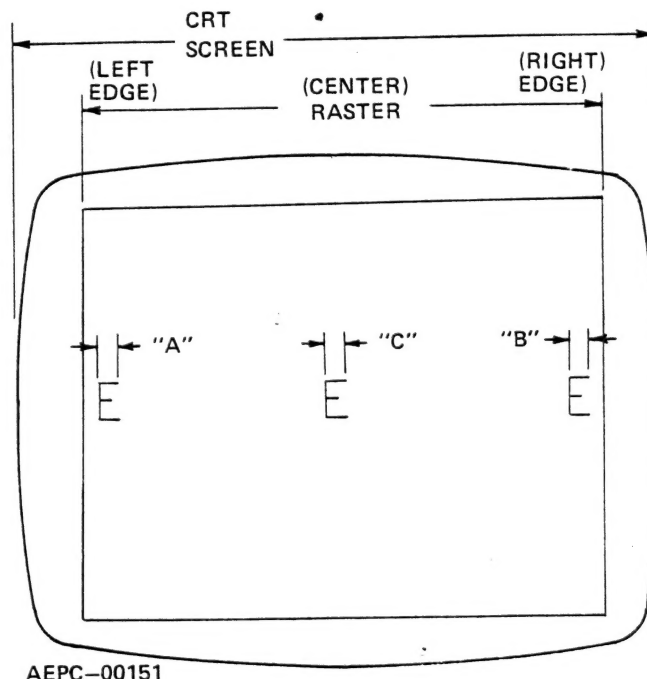

Figure 2. Partial CRT Raster Display of Characters for Adjustment
Step 7. (Refer to Figure 2.) Observe the extreme left-hand edge characters (designated "A" in Figure 2). Its width should be equal to the width of the right-hand edge characters (designated "B" in Figure 2). If character "A" is wider than character "B", the copper sleeve is extending out too far. If "A" is narrower than "B", the copper sleeve should be pulled out further. In any event, the copper sleeve may have to be repositioned by trial and error if the 0.125-inch dimension does not provide desired linearity. Continue until the width of character "A" is equal to the width of character "B".
Step 8. With the M2000 monitor turned on and operating normally, observe the width of the center character (designated "C" in Figure 2). It should be narrower than characters "A" and "B".